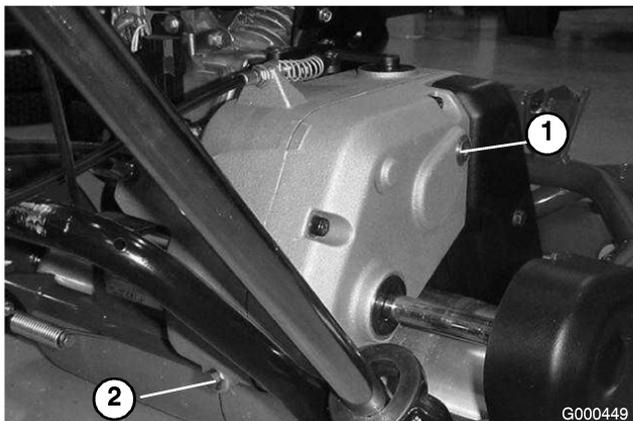

Figure 27
2. Remove the check/fill plug from the right-hand side of the transmission (Figure 27).